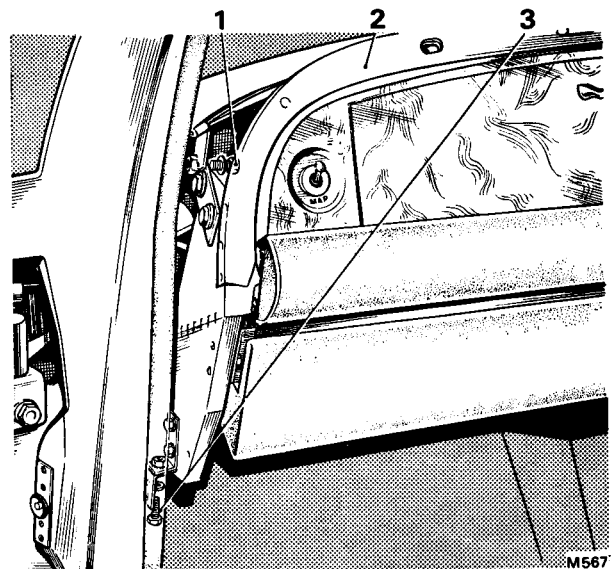

FIG. S110 POSITION OF THE SETSCREWS SECURING LEFT-HAND SIDE OF THE INSTRUMENT BOARD
11. Remove the eight $\frac{7}{16}$ in. A/F setscrews securing the instrument board to the car; four of these setscrews secure the board to the two centre mounting brackets, the other four setscrews secure the outer ends of the board to the side scuttle brackets (see Fig. S110).